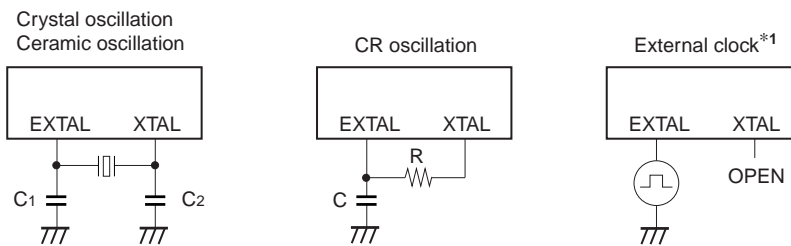

Fig. 2. Clock applying condition
*1 The external clock in Fig. 2. is specified only when the option is selected for crystal or ceramic oscillation.
Note) When adjusting the frequency accurately, there may be cases in which they differ from Fig. 2.